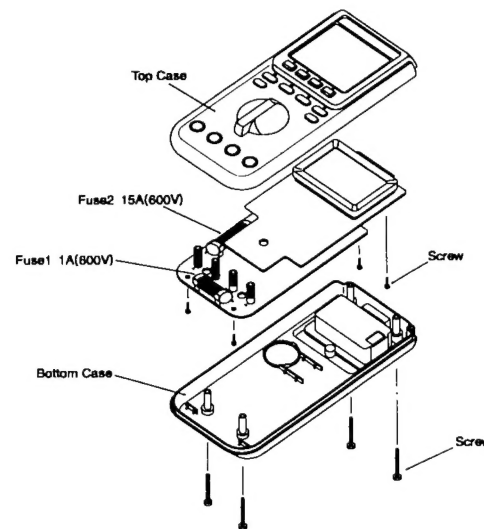

Figure 5.
9.2 FUSE REPLACEMENT (refer to Figure 5)